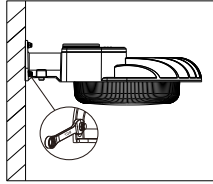

Figure 7
4. Fix the lighting fixture on the wall with studs and then tighten it up by a wrench (Figure 7);